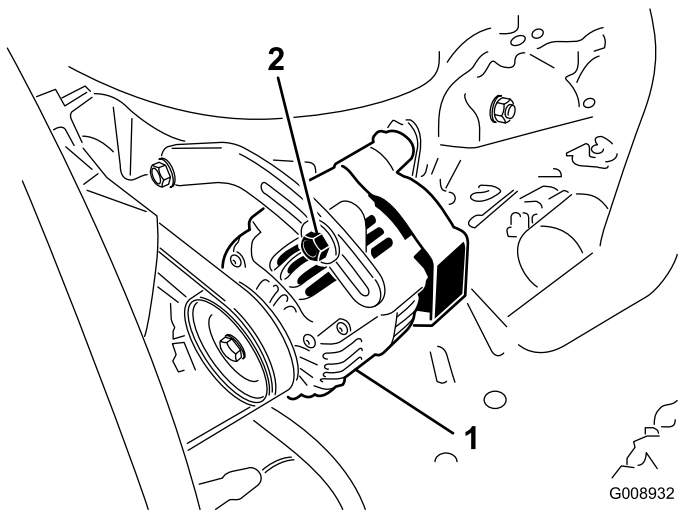

Figure 91
2. If the deflection is not 10 mm (3/8 inch), loosen the alternator mounting bolts (Figure 91).